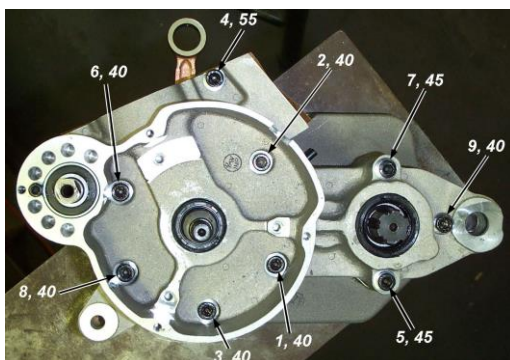

Figure 21
9. Torque to 12 Nm (105 in-lb) in the pattern shown in figure 21.